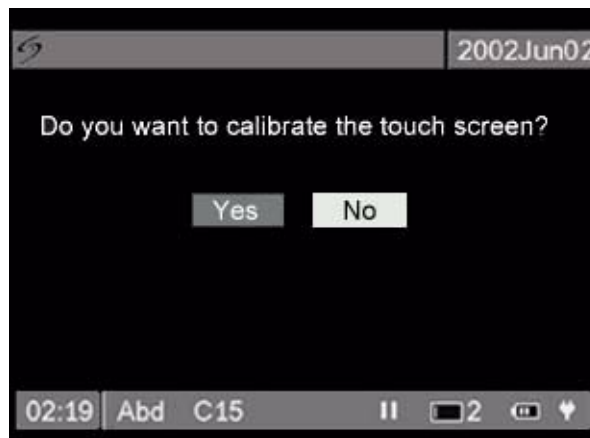

Figure 8.3 Calibration Screen
- 6 Select or tap **Calibration**. The calibration screen will appear. (Figure 8.3)